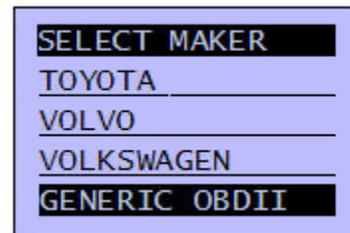

Figure 8
6. Press  or  key to select the car maker according to the car made that need to be tested or if it is not in the menu then selects [Generic OBDII] (Figure 8).